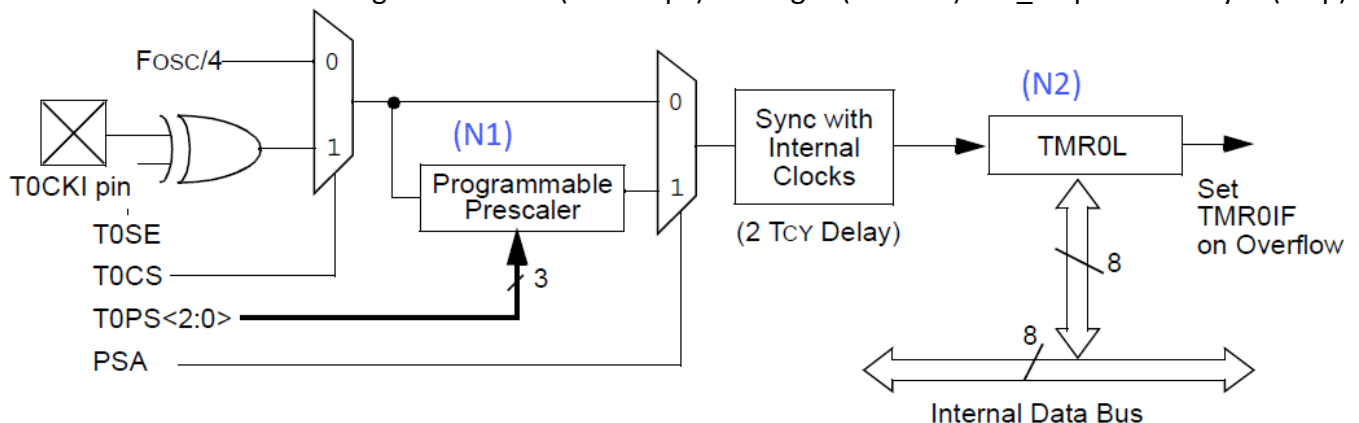

Fig. 9 Architecture of the Timer0 peripheral.
- If in the next design phase the external CLK is replaced by the internal peripheral Timer0 (represented in Fig. 9) in 8-bit mode, calculate **N1** (prescaler), **N2** (TMR0L) and the configuration bits required to generate a *var_CLK_RX_flag* interrupt every CLK_RX period ($208.33 \mu\text{s}$) to run the machine. (0.5p)